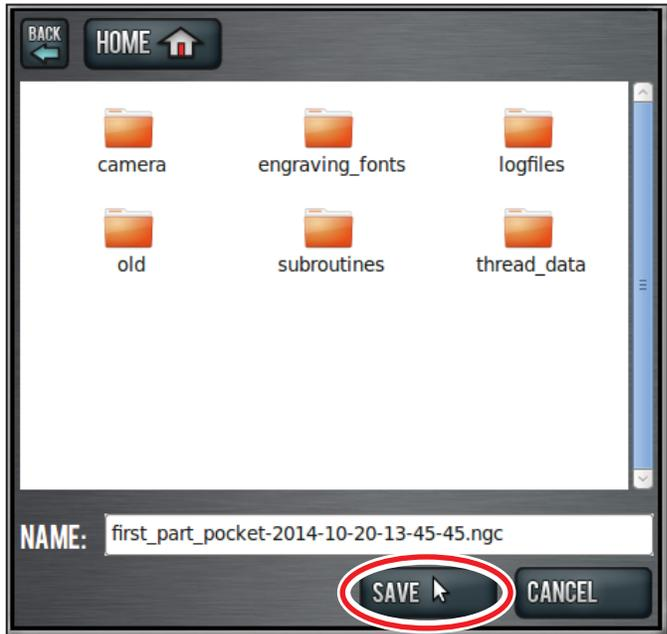
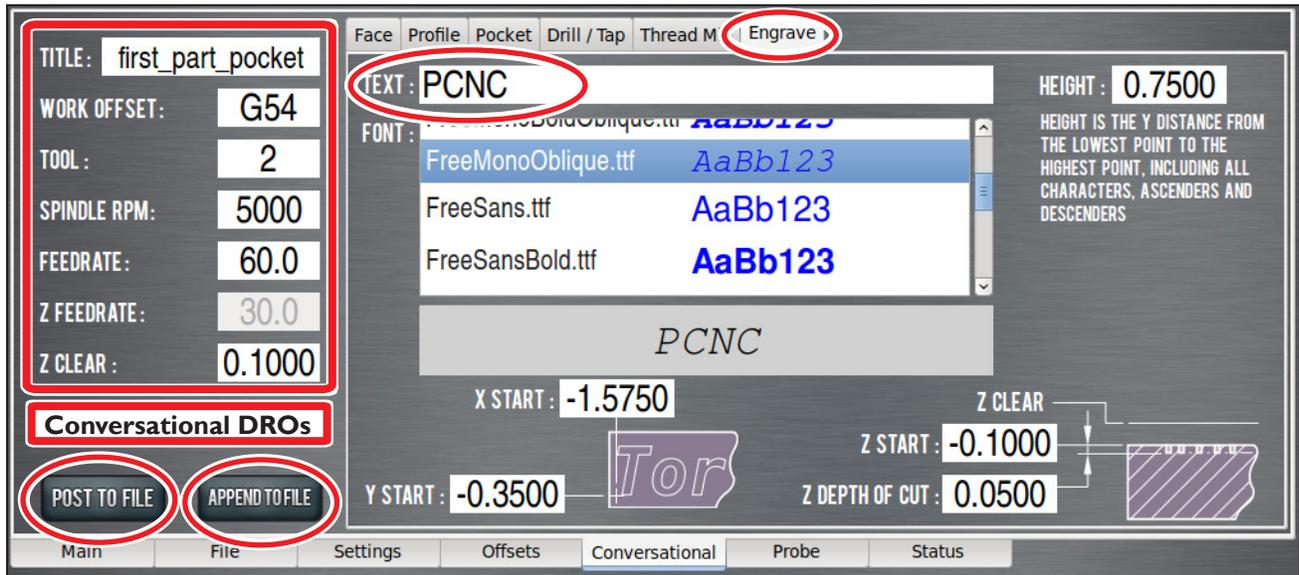

**Figure 5.10**
Figure 5.13
To write code for the first operation, click the *Conversational* tab (see **Figure 5.10**). The *Conversational* screen is divided into two sections: parameters common to most operations are displayed on the left and operation-specific parameters (including part geometry) are displayed on the right.
Click the *Pocket* tab to bring up the pocketing screen. Click the *Rect/Circ* button to bring up the circular pocket screen (see **Figure 5.10**). Use this screen to generate code to create a shallow pocket (0.1000" deep and 3.250" in diameter). The conversational DRO fields should be self-explanatory and are covered in detail in chapter 6, *PathPilot Interface*, but for now, enter the values seen in **Figure 5.10**.
- After the values from **Figure 5.10** are entered, click the *Post to File* button to save the G-code.
Go back to the *Conversational* screen and click on the *Engrave* tab (see **Figure 5.10**) and the Engrave screen opens (see **Figure 5.13**). Enter the values shown in **Figure 5.13**, *Conversational DROs*. Make sure to enter *PCNC* in the text field.
1. Select the *FreeMonoOblique.ttf* font (see **Figure 5.13**) and change the *Tool* DRO to 2 for the engraving operation.
2. Press the *Append to File* button (see **Figure 5.13**). A file chooser dialog opens that allows you to select the file to which you want to add the engraving G-code.